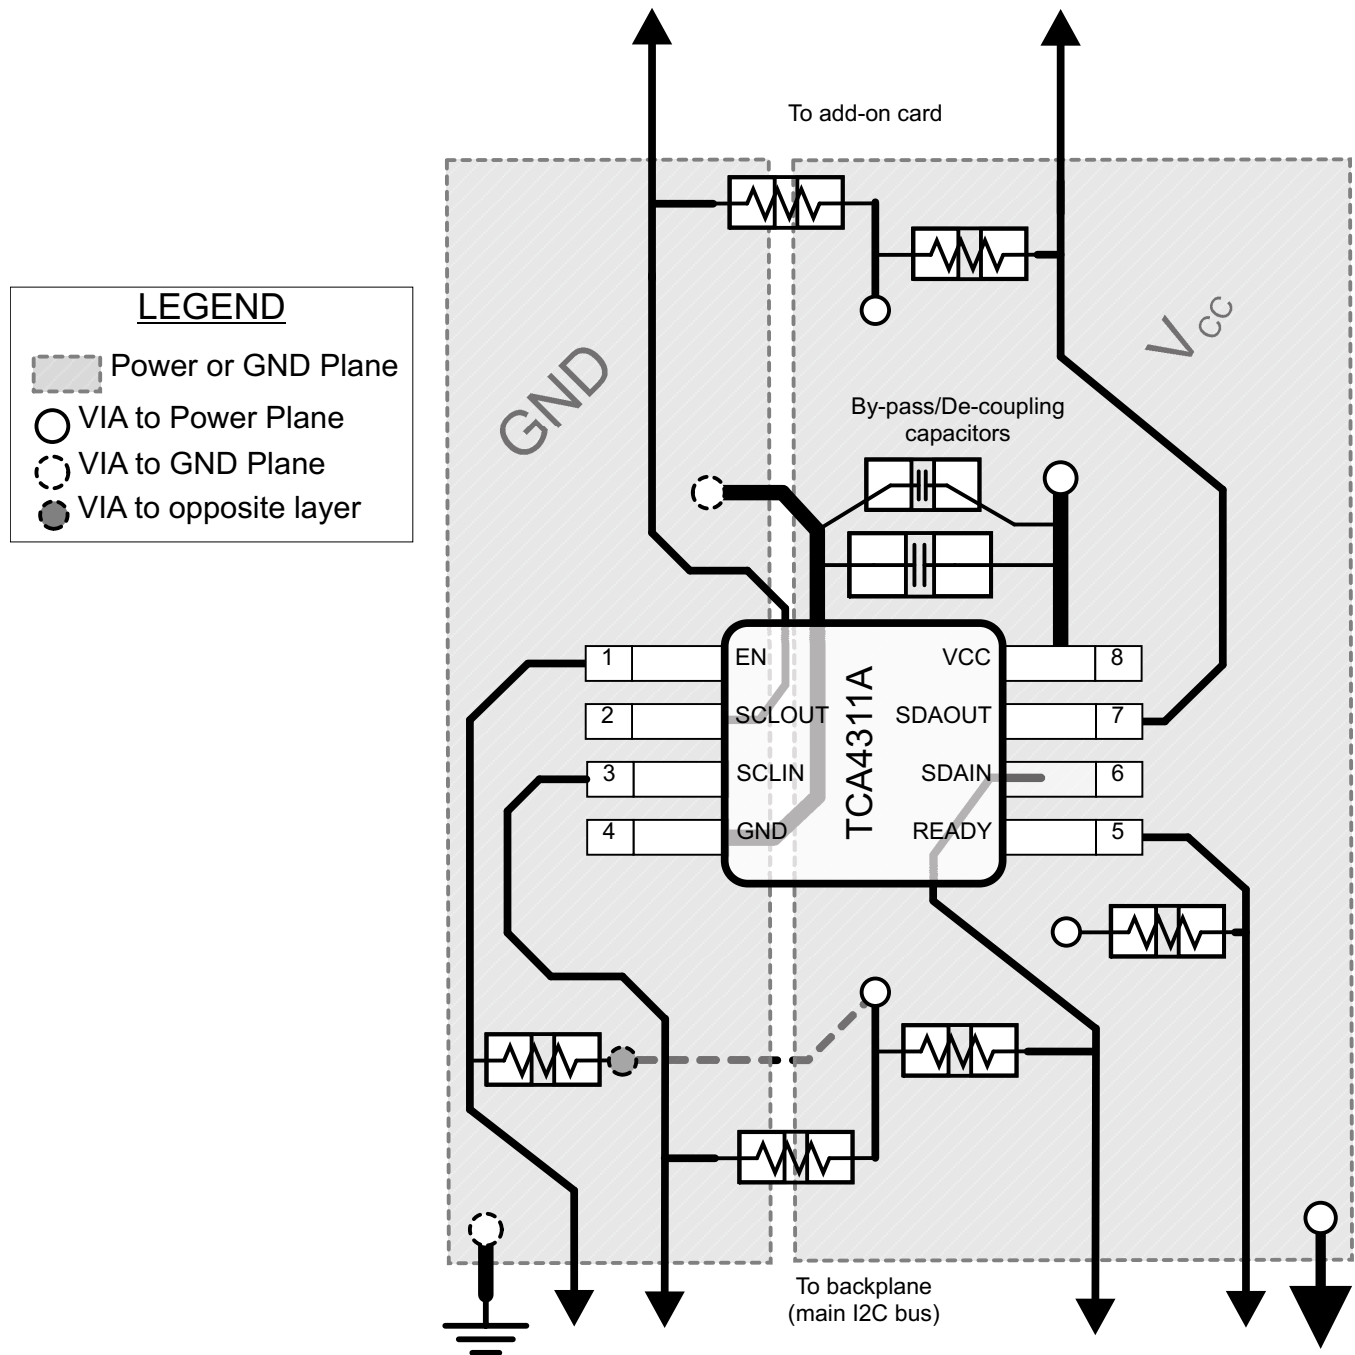

Figure 16. Package Layout
In all PCB layouts, it is a best practice to avoid right angles in signal traces, to fan out signal traces away from each other upon leaving the vicinity of an integrated circuit (IC), and to use thicker trace widths to carry higher amounts of current that commonly pass through power and ground traces. By-pass and de-coupling capacitors are commonly used to control the voltage on the VCC pin, using a larger capacitor to provide additional power in the event of a short power supply glitch and a smaller capacitor to filter out high-frequency ripple. These capacitors should be placed as close to the TCA4311A as possible. These best practices are shown in Figure 16.
The layout example provided in Figure 16 shows a 4 layer board, which is preferable for boards with higher density signal routing. On a 4 layer PCB, it is common to route signals on the top and bottom layer, dedicate one internal layer to a ground plane, and dedicate the other internal layer to a power plane. In a board layout using planes or split planes for power and ground, vias are placed directly next to the surface mount component pad which needs to attach to V_{CC} or GND and the via is connected electrically to the internal layer or the other side of the board. Vias are also used when a signal trace needs to be routed to the opposite side of the board, shown in Figure 16 for the V_{CC} side of the resistor connected to the EN pin; however, this routing and via is not necessary if V_{CC} and GND are both full planes as opposed to the partial planes depicted.